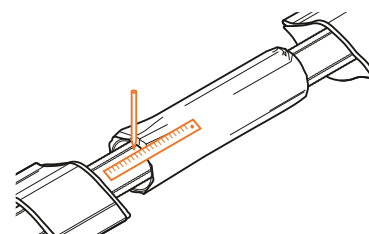

Fig. B11.1.3
3. Position the heat shrink sleeve over the middle of the joint area and mark its position on the outer casing of each pipe (Fig. B11.1.3).